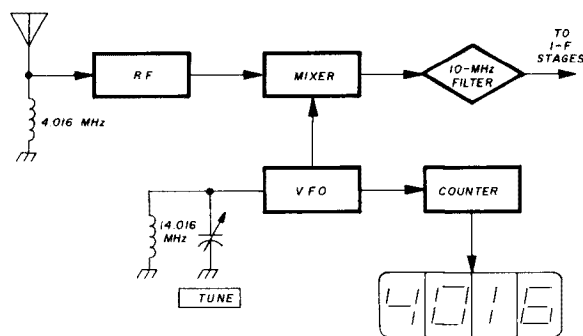

fig. 2. Electronic digital frequency readout using a 10-kHz i-f. Received signal is 4.016 kHz.
fig. 2. Four different methods for supplying base current. (A) illustrates a simple diode clamp/Byistor circuit. The Byistor provides superior thermal runaway performance. By changing to the series regulator (B) instead of shunt regulators, the current requirement is reduced by  $1/h_{fe}$ . (C) shows another version which incorporates a simple transistor amplifier. This circuit, along with (D), is an active bias supply which features high current capability and low output impedance.